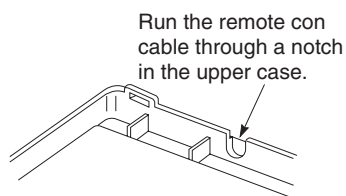
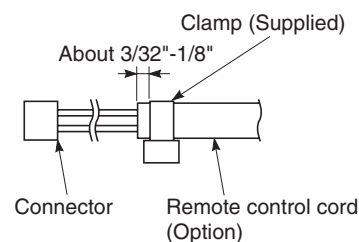

Fig. 1-99
Fig. 1-100
- (1) Insert a flathead screwdriver into the slot on the lower side of the signal receiving unit and pry off the back case.
- (2) The wire routing at the signal receiving unit comes out of the upper case (thin portion at upper center) so use nippers or a similar tool to cut out a notch beforehand large enough for the remote control cable (option) to pass through as shown in Fig. 1-99.
- (3) Remove the wire, which is connected prior to shipping, from the connector.
- (4) Connect the remote control cable (option) to the signal receiving unit connector as shown in Fig. 1-100 after the clamp (supplied) with the unit is installed.